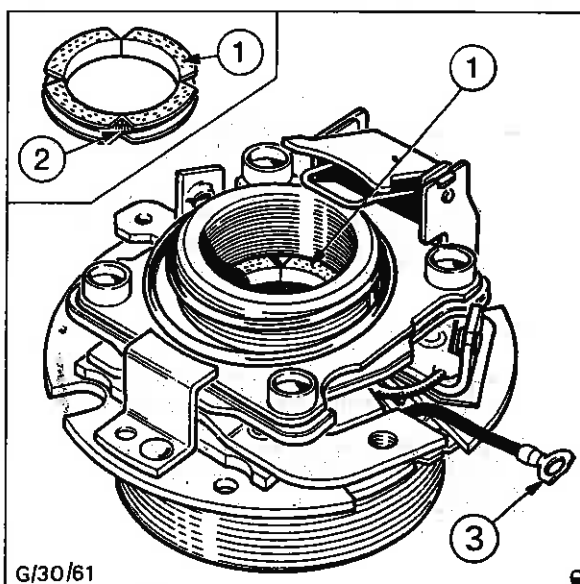

Fig. 21 - Segments and Garter Spring Assembly
1. Fit the protection collar (special service tool No. 6244-6) over the end of the pinion sleeve and insert the pinion assembly into the drive-end shield, ensuring that the dust scraper ring (45) or, in the case of sealed starters, the oil seal, is not damaged in the process.
3. Before assembling the four segments (1), Fig. 21, check that they are free from burrs and sharp edges. Place the garter spring (2), on a clean flat surface, and with the fingers position the four segments inside the spring so that they lie end to end in a circle. The garter spring will fit in the outer groove of the segments and hold them together.
8. Insert main terminal (22) into position from inside the housing, and replace bush (24), rubber ring, insulating washers, plain washers, spring washers and nut (23). Pressing down the plunger gives room to insert the main terminal. Do not tighten until operation 9 has been carried out. Add the solenoid terminal tag (3), Fig. 21.
9. Replace spring washer and screw (25) and tighten securely. Now tighten nut (23) to the specified torque value.
10. Fit the lock collar (38) to the pinion sleeve, making sure that the 45° chamfer inside the collar is facing towards the solenoid assembly.
11. Replace the spring (9), trip collar (10), and secure in position with circlip (11), dished side downwards. Make sure that the circlip locates in the locking collar groove. Check with gauge 6244-3 for seating squarely.
12. Insert resistor (40) into its recess in the drive end shield, and secure it in position by means of bush and spacer (26) and rivet (27).
13. Connect the resistor lead to the lug on the solenoid assembly by means of washer and screw (28).